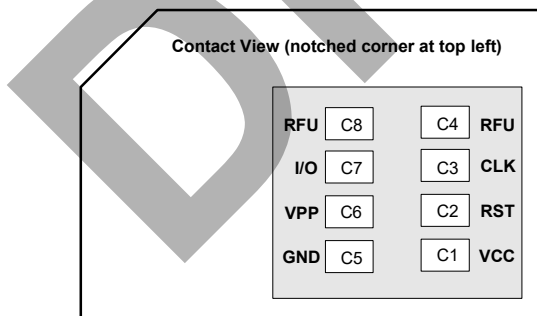

Figure 2-6: SIM Card Contacts (Contact View)
a. See Figure 2-6 on page 26 for SIM card contacts.